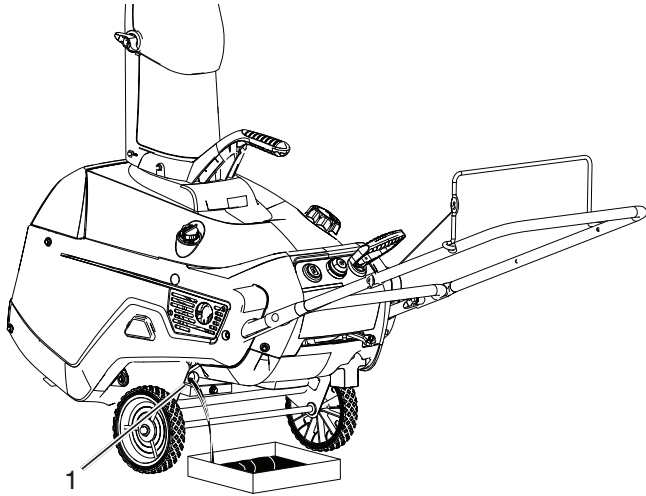

Figure 23
4. Place an oil drain pan under the oil drain plug, remove the oil drain plug, and tip the snowthrower backward and drain the used oil in the oil drain pan (Figure 23).
6. Screw in the oil fill cap/dipstick and hand tighten it securely (1).